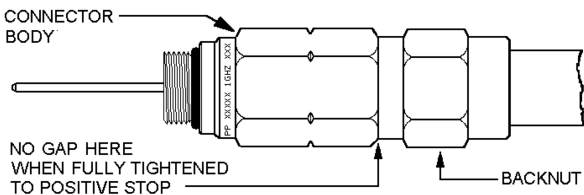

Figure 3 - Backnut Installation
4. While holding the connector body with a wrench, tighten the backnut until there is no gap between the front end of the backnut and the positive stop on the connector body. See **Figure 3**.